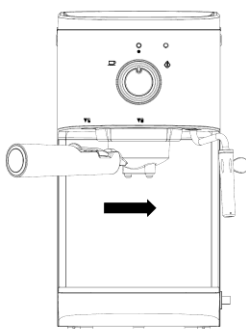
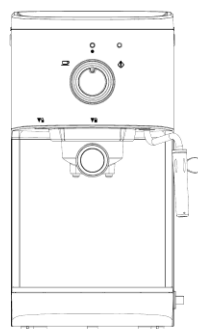

Fig. 8
Fig. 9
8. Move the handle firmly to the right (fig. 8) until it is aligned with the 'locked' padlock symbol (▼🔒) on the appliance (fig. 9).